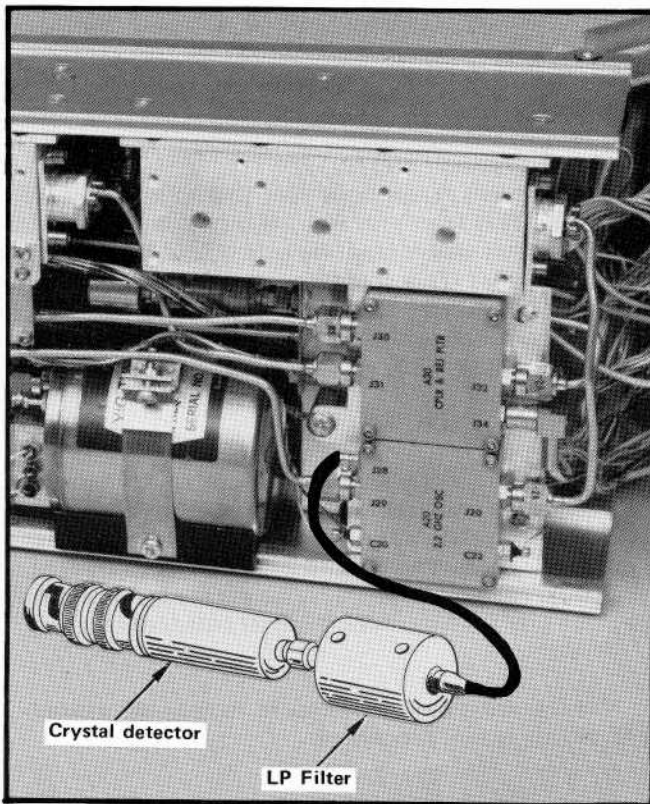

Fig. 6-9. Connecting a crystal detector and LF filter to the 105 MHz output of the Hybrid Assembly.
4. Loosen the mixer assembly locking screws (Fig. 6-9), then rotate the assembly to minimize the spurious signal amplitude. Tighten the locking screw, ensuring that the assembly position does not shift.
7. Remove P28 from the 105 MHz output of the hybrid and connect a 105 MHz crystal detector (through appropriate adapters) between the 105 MHz IF output (J28) and the Input to the narrow band (1 kHz) high gain amplifier. (See Fig. 6-9). Switch the oscilloscope Vertical Mode to Right or Chop, so the amplifier output can be observed. Switch the input coupling of the amplifier to dc. If the amplifier has selectable bandwidth, set the HF point to 1 kHz and the LF point to 0.1 Hz.